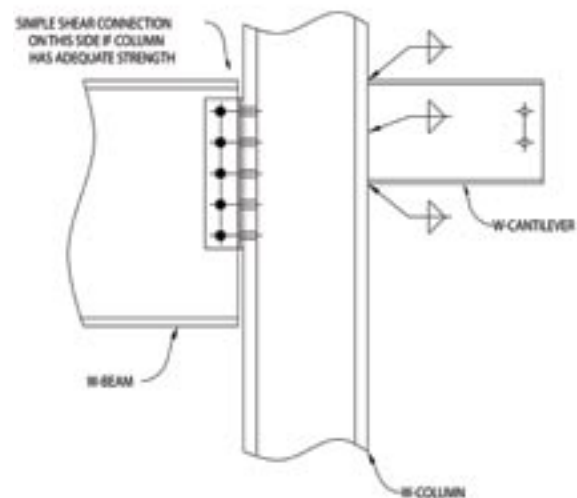

Figure 3. Shop Welded Short Cantilever
23. Shop-weld short cantilevers to the column as shown in **Figure 3**. This will make the erection much safer.